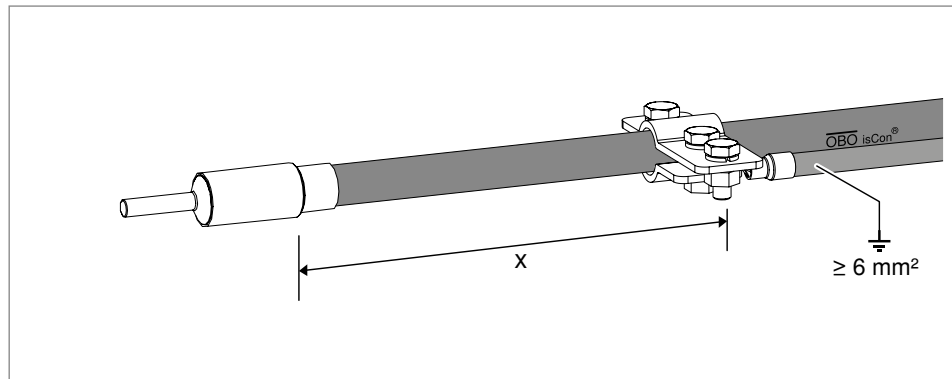

Fig. 53: Distance between the connection element and the potential connection terminal
- Connect the potential connection terminal to the equipotential bonding with $\geq 6 \text{ mm}^2$ Cu or a material with identical conductivity (see Fig. 53).